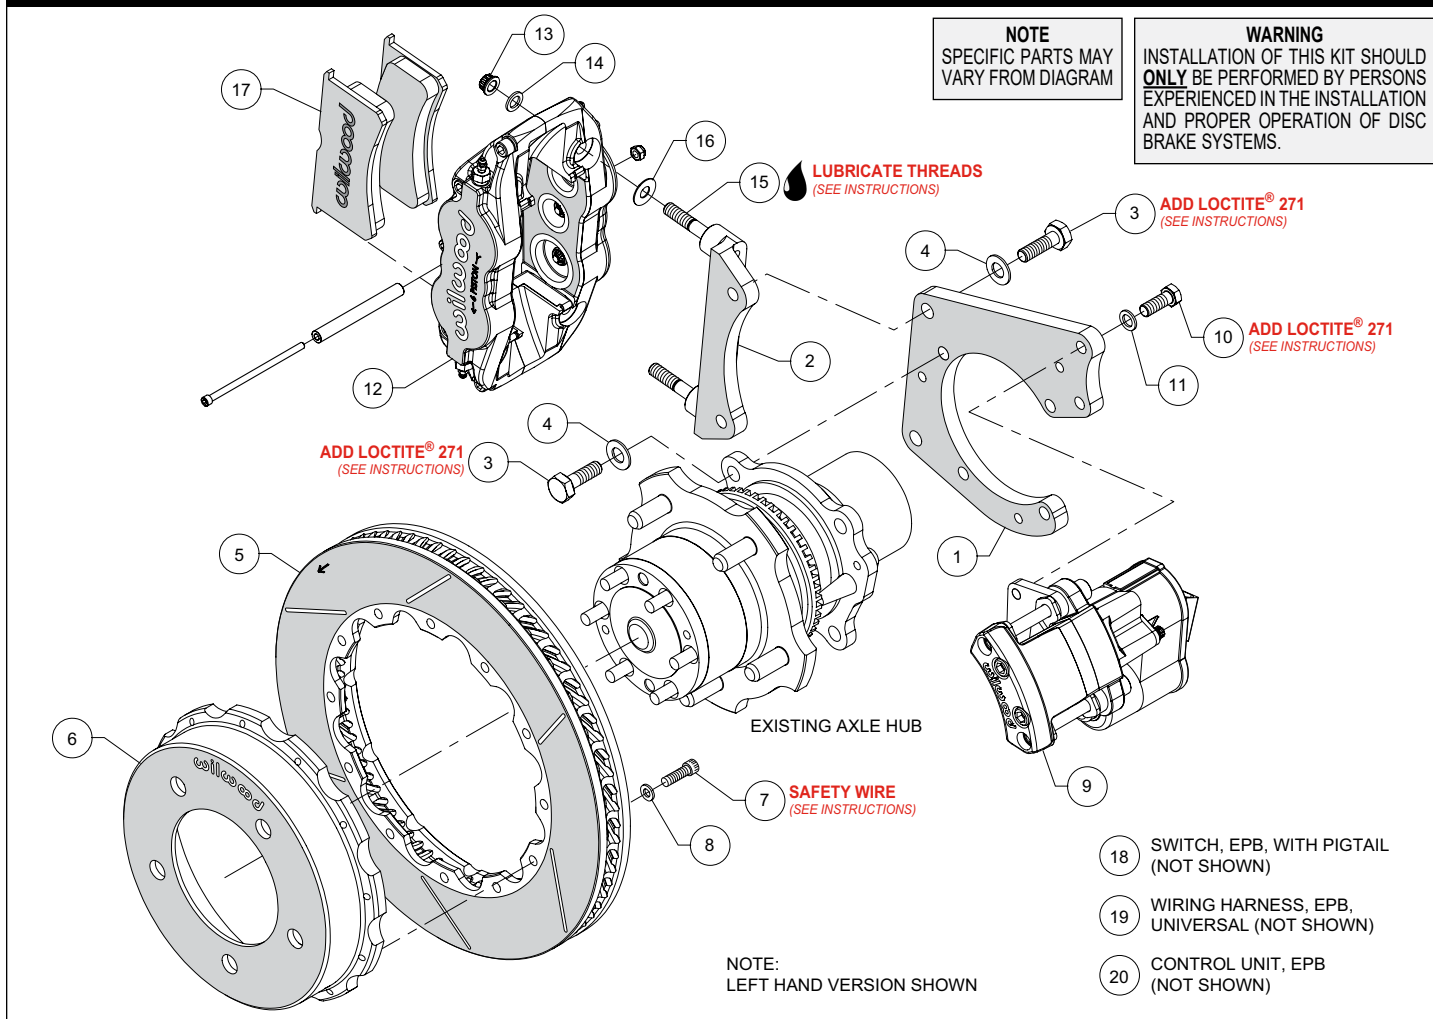
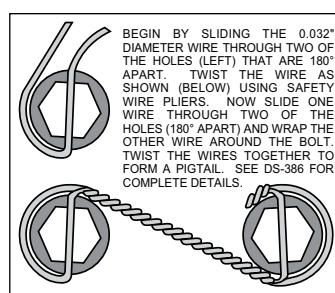

Figure 1. Typical Installation Configuration
Figure 3. Safety Wire Diagram
**NOTE:** Numbers in parenthesis refer to the parts list and Figure 1 on the preceding pages.
- The flat bracket (1) should initially be installed with clean, dry threads on the mounting bolts. Orient the bracket as shown in Figure 1, and Photo 1, and install using bolts (3) and washers (4). Temporarily tighten the mounting bolts. **NOTE:** *The bracket must fit squarely against the axle flange.* Inspect for interference from casting irregularities, machining ridges, burrs, etc. Remove the bracket mounting bolts one at a time, apply red *Loctite*® 271 to the threads, and torque to 60 ft-lbs.
- The caliper mount bracket (2) should initially be installed with clean, dry threads on the mounting bolts. Orient the bracket as shown in Figure 1 and Photo 2, and install using mount bolts (3) and washers (4). Temporarily tighten the mounting bolts. Inspect for interference from casting irregularities, etc. Remove the bracket mounting bolts one at a time, apply red *Loctite*® 271 to the threads, and torque to 60 ft-lbs.
- Orient the rotor (5) and the hat (6) as shown in Figure 1 and Photo 3. Attach rotor to hat using bolts (7) and washers (8). Apply red *Loctite*® 271 to the bolt threads and torque to 155 **in-lb** using a criss-cross pattern. Safety wire bolts using standard 0.032 inch diameter stainless steel safety wire as shown in Figure 3. Please refer to Wilwood's data sheet DS-386 (available at [www.wilwood.com/Pdf/DataSheets/ds386.pdf](http://www.wilwood.com/Pdf/DataSheets/ds386.pdf)) for complete safety wire installation instructions.
- NOTE:** *This kit contains distinct right and left hand calipers that must be mounted in a specific direction, as described below.* Lubricate the caliper mounting studs (15) with lightweight oil. Initially place one .035" thick shim (16) on each stud between the caliper and the bracket, as shown in Figure 1 and Photo 5. Mount the caliper (12) onto the bracket (2) using lock nuts (13) and washers (14), Figure 1. Temporarily tighten the lock nuts. Ensure that the caliper is mounted so the largest pistons are at the rotor exit end of the caliper, in relation to the direction of the rotor.
- Remove the caliper center bridge pad retainer bolt, nut, and tube from the caliper. Insert the brake pads (17) into the caliper, with the friction material facing the rotor, as shown in Photo 6. Check that the top of the brake pad is flush with the outside diameter of the rotor, Photo 7. If not, adjust by adding or subtracting shims (16) between the caliper and the bracket. After the caliper pad height is set, torque the caliper lock nuts (13) to 30 ft-lb. Secure the brake pads in place with the center bridge pad retainer tube, bolt, and locknut, Photo 8. The locknut should be snug without play in the bolt or tube. Be cautious not to over tighten.
- Mount the EPB caliper (9) onto the flat bracket (1) using bolts (10) and washers (11), as shown in Figure 1 and Photo 9. Apply red *Loctite*® 271 to bolt threads, and torque to 30 ft-lb.